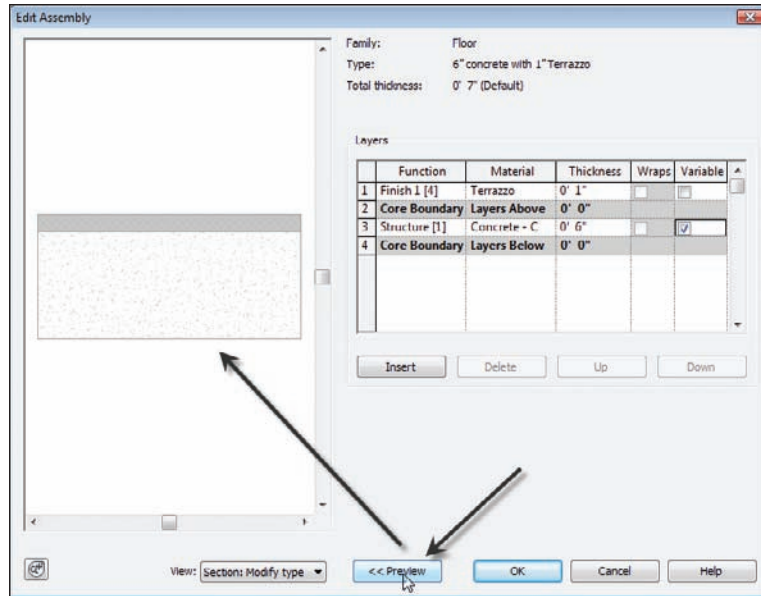

FIGURE 6.24 You can see a preview of the floor in section as it is being built.
9. At the bottom of the Edit Assembly dialog is a Preview button. Click it. After you do, you can see a graphic preview of your floor in a sectional view, as shown in Figure 6.24.